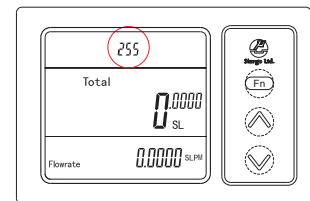
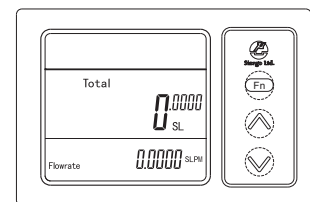

Figure 6-9 Multi-device communication mode
Figure 6-10 Single-device communication mode
(4) Communication Modes switches (Figure 6-9, Figure 6-10)
- Set the address of the meter (value of **SEt Addr**) as (3).E. such as 255;
- Set the meter to *Multi-device communication mode* (select value of **PrOTOCOL** to P1-255 or P2-255) as (3).D;